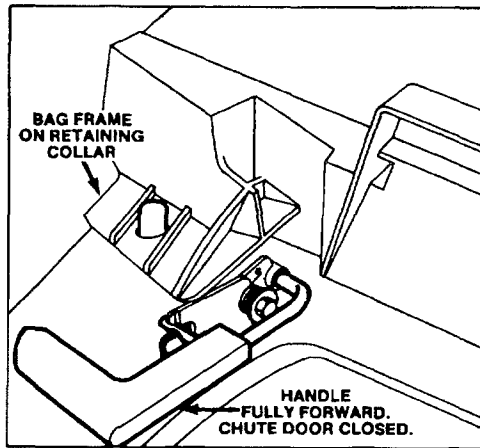

Figure 5
MULCH — In summer, when grass grows slower and is drier, mulch by closing chute door (Fig. 5). For convenience and protection, keep grass bag on mower.
5. **EMPTYING BAG** — Release control bar and wait for blade to stop. Move chute door handle forward to engage the locking pin with catch (Fig. 5). Grasp handle at front and rear of bag and lift bag off mower. For protection, always keep hands and feet away from mower housing because engine is running. Gradually tip bag forward to empty clippings.